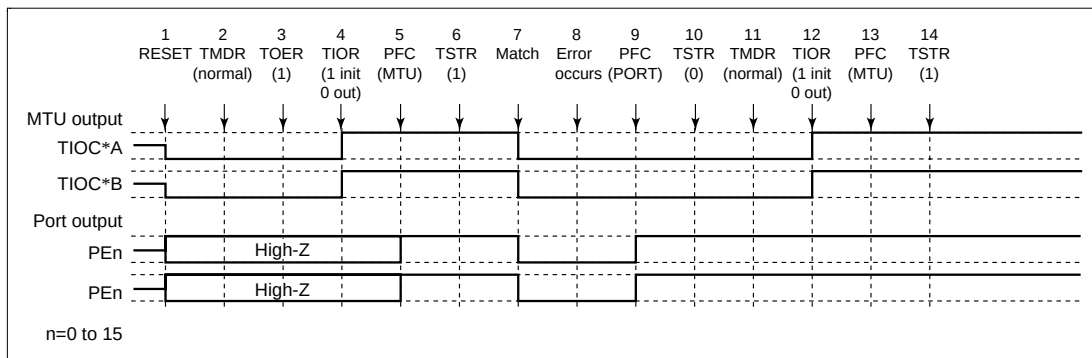

Figure 12.96 Error Occurrence in Normal Mode, Recovery in Normal Mode
Restarted in Normal Mode: Figure 12.96 shows an explanatory diagram of the case where an error occurs in normal mode and operation is restarted in normal mode after re-setting.
1 to 10 are the same as in figure 12.96.
- 1 to 10 are the same as in figure 12.96.